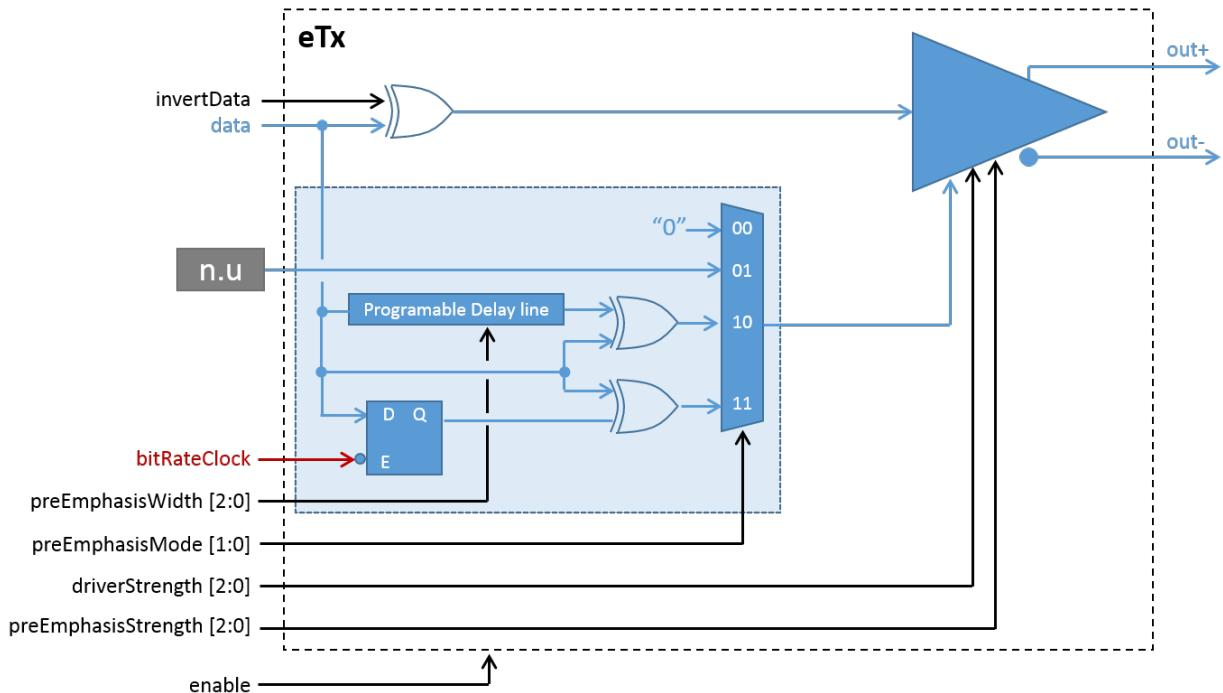

Fig. 7.5: eLink receiver
Fig. 7.5 illustrates the architecture of the IpGBT eLink driver. The same driver is used for the data outputs, up to 320 Mbps, and the clock outputs, up to 1.28 GHz. The driver has been designed to drive 100 Ohm loads with programmable strengths and controlled amounts of pre-emphasis. It has been designed to satisfy the CLPS standard previously described in this chapter. The driver offers many programmable features which include:
- *Enabling a clock driver:* In this case the signal "enable" in Fig. 7.5 becomes: $\text{enable} = (\text{EPCLK[G]Freq}[2:0] \sim 2'b00)$. That is, every time a clock output is set to work at any of the frequencies between 40 MHz and 1.28 GHz the corresponding driver is enabled. The clock frequency is controlled by bits 2:0 of registers [\[0x06c\] EPCLK0ChnCntrH](#) (page 150) to [\[0x0a4\] EPCLK28ChnCntrH](#) (page 187);
- *Enabling a data driver:* In this case it is possible that even if a given group is active that a specific channel within that group will not be used. Consequently it is necessary to explicitly enable the channels in use. Here, the signal "enable" in Fig. 7.5 becomes: $\text{enable} = \text{EPTX[G][C]Enable}$. These signals are controlled by registers [\[0x0a9\] EPTX10Enable](#) (page 190) and [\[0x0aa\] EPTX32Enable](#) (page 190); Notice that, if the mirror function is not enabled, for a given data rate only the channels indicated in table ePortTx \(downlink\) data rates (page 48) can be enabled. If the mirror function is enabled for a given group it is possible to enable all the channels in that group. The mirror function is controlled on a group basis by signals [EPTX\[G\]MirrorEnable](#) in register [\[0x0a8\] EPTXControl](#) (page 189) (Bits 3:0).
- *Clock driver strength:* For clock drivers the driving strength is set by the signal "driverStrength[2:0]" in Fig. 7.5 with $\text{driverStrength}[2:0] = \text{EPCLK[C]DriveStrength}[2:0]$. These signals are controlled by bits 5:3 of registers [\[0x06c\] EPCLK0ChnCntrH](#) (page 150) to [\[0xa4\] EPCLK28ChnCntrH](#) (page 187);
- *Data driver strength:* For data drivers the driving strength is set by the signal "driverStrength[2:0]" in Fig. 7.5 with $\text{driverStrength}[2:0] = \text{EPTX[G][0]DriveStrength}[2:0]$. These signals are controlled by bits 2:0 of registers [\[0x0ac\] EPTX00ChnCntr](#) (page 191) to [\[0xbb\] EPTX33ChnCntr](#) (page 202). For the EC channel $\text{driverStrength}[2:0] = \text{EPTXEcDriveStrength}[2:0]$, these signals are controlled by bits 2:0 of registers [\[0x0ab\] EPTXEcChnCntr](#) (page 190);
- *Clock driver pre-emphasis strength:* For clock drivers the driving strength is set by the signal "preEmphasisStrength[2:0]" in Fig. 7.5 with $\text{preEmphasisStrength}[2:0] = \text{EPCLK[C]PreEmphasisStrength}[2:0]$. These signals are controlled by bits 7:5 of registers [\[0x06d\] EPCLK0ChnCntrL](#) (page 150) to [\[0xa5\] EPCLK28ChnCntrL](#) (page 188).
- *Clock driver pre-emphasis timing:* The pre-emphasis pulse width is controlled by two parameters (Fig. 7.5) the timing **Mode** and the **Pulse Length**. The "Mode" allows to select between no pre-emphasis, pre-emphasis with "clock timed" pulse duration (1/4 of the clock period) or "self timed" where the pulse width can be programmed from 120 ps up to 960 ps. Notice that the "clock timed" mode is not valid if the clock output is set to 1.28 GHz and that in the "self timed" mode the pulse width should never be programmed to exceed 1/2 clock period. The pre-emphasis mode is selected by the signals $\text{preEmphasisMode}[1:0] = \text{EPCLK[C]PreEmphasisMode}[2:0]$ that are controlled by bits 4:3 of registers [\[0x06d\] EPCLK0ChnCntrL](#) (page 150) to [\[0xa5\] EPCLK28ChnCntrL](#) (page 188). When in the "self timed" mode, the signals $\text{preEmphasisWidth}[2:0] = \text{EPCLK[C]PreEmphasisWidth}[2:0]$ set the pulse width and are controlled by bits 2:0 of registers [\[0x06d\] EPCLK0ChnCntrL](#) (page 150) to [\[0xa5\] EPCLK28ChnCntrL](#) (page 188).
- *Data driver pre-emphasis strength:* For data drivers the driving strength is set by the signal "preEmphasisStrength[2:0]" in Fig. 7.5 with $\text{preEmphasisStrength}[2:0] = \text{EPTX[G][C]PreEmphasisStrength}[2:0]$. These signals are controlled by bits 7:5 of registers [\[0x0ac\] EPTX00ChnCntr](#) (page 191) to [\[0xbb\] EPTX33ChnCntr](#) (page 202). For the EC channel $\text{preEmphasisStrength}[2:0] = \text{EPTXEcDriveStrength}[2:0]$, these signals are controlled by bits 7:5 of registers [\[0x0ab\] EPTXEcChnCntr](#) (page 190);
- *Data driver pre-emphasis timing:* The pre-emphasis pulse width is controlled by two parameters (Fig. 7.5) the timing **Mode** and the **Pulse Length**. The "Mode" allows to select between no pre-emphasis, pre-emphasis with "clock timed" pulse duration (1/2 of the clock period) or "self timed" where the pulse width can be programmed from 120 ps up to 960 ps. Notice in the "self timed" mode the pulse width should never be programmed to exceed the bit period. The pre-emphasis mode is selected by the signals $\text{preEmphasisMode}[1:0] = \text{EPTX[G][C]PreEmphasisMode}[1:0]$ that are controlled by bits 4:3 of registers [\[0x0ac\] EPTX00ChnCntr](#) (page 191) to [\[0xbb\] EPTX33ChnCntr](#) (page 202). When in the "self timed" mode, the signals $\text{preEmphasisWidth}[2:0] = \text{EPTX[G][C]PreEmphasisWidth}[2:0]$ set the pulse width and are controlled by bits 6:4 and 2:0 of registers [\[0x0bc\] EPTX01_00ChnCntr](#) (page 203) to [\[0xc3\] EPTX33_32ChnCntr](#) (page 208). For the EC channel the pre-emphasis mode is selected by the signals $\text{preEmphasisMode}[1:0] = \text{EPTXEcPreEmphasisMode}[1:0]$ that are controlled by bits 4:3 of register [\[0x0ab\] EPTXEcChnCntr](#) (page 190). When in the "self timed" mode, the signals $\text{preEmphasisWidth}[2:0] = \text{EPTXEcPreEmphasisWidth}[2:1]$ set the pulse width and are controlled by bits 6:4 of register :ref:REG_EPTXCONTROL.